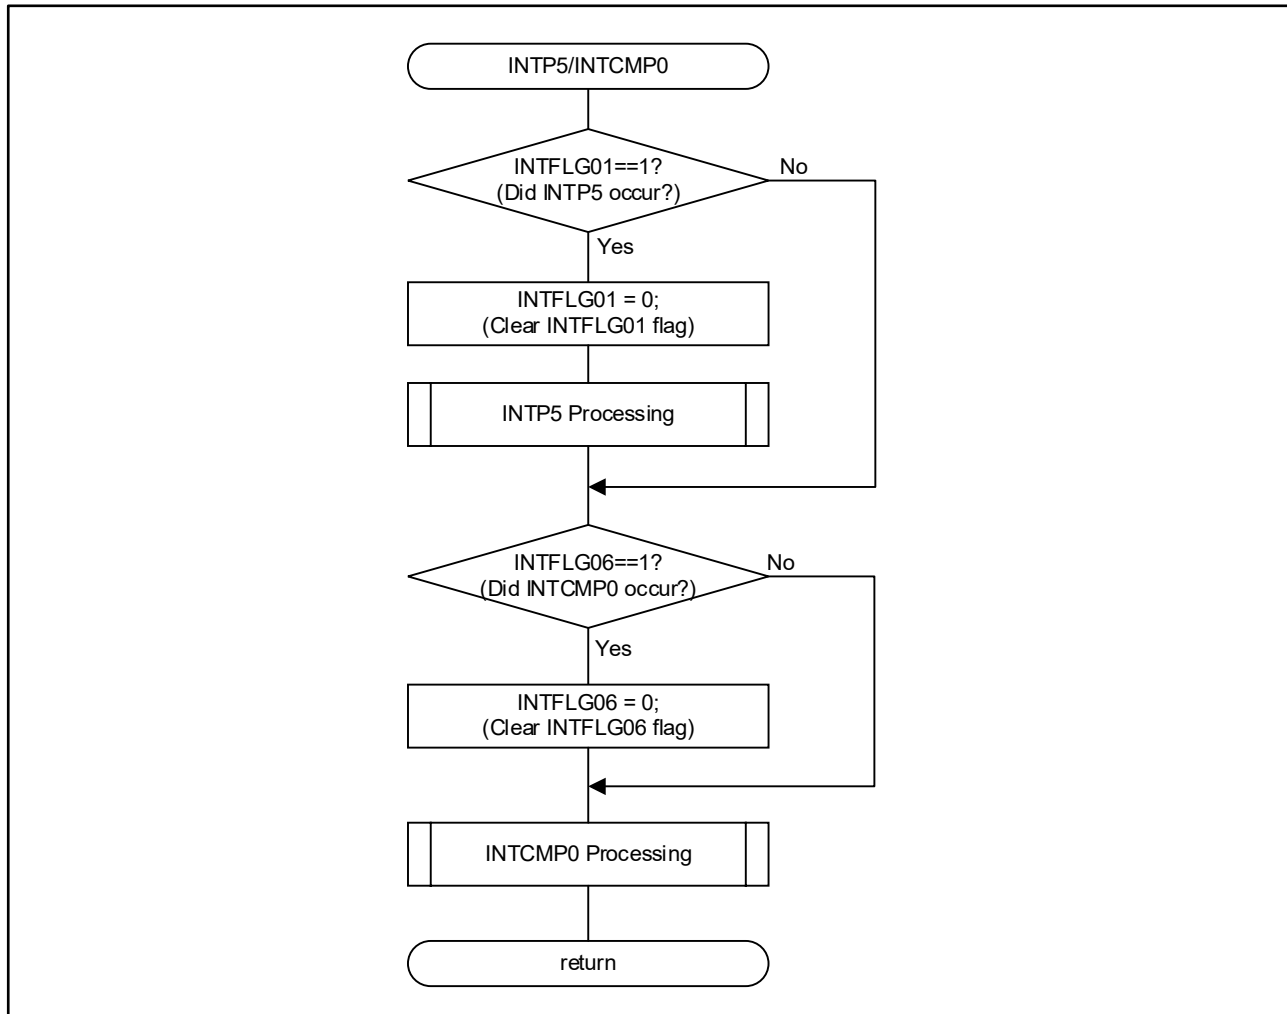

**Figure 1-1 INTP4/INTSPM Interrupt Judgement Example**
**Figure 1-1** shows an interrupt processing example in case of both INTP4 (Pin input edge detection 4) and INTSPM (Stack pointer overflow/underflow) are enabled.